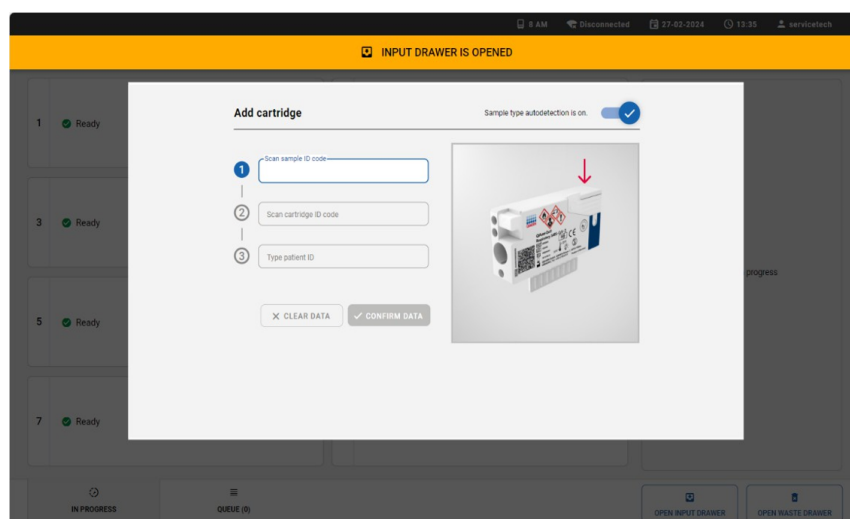

Figure 14. Scan sample ID screen.
1. The Add cartridge dialog appears and the scanner at the front will be activated. Scan the sample ID barcode attached to the top of the QIAstat-Dx assay cartridge (position is indicated by the arrow) (Figure 14).